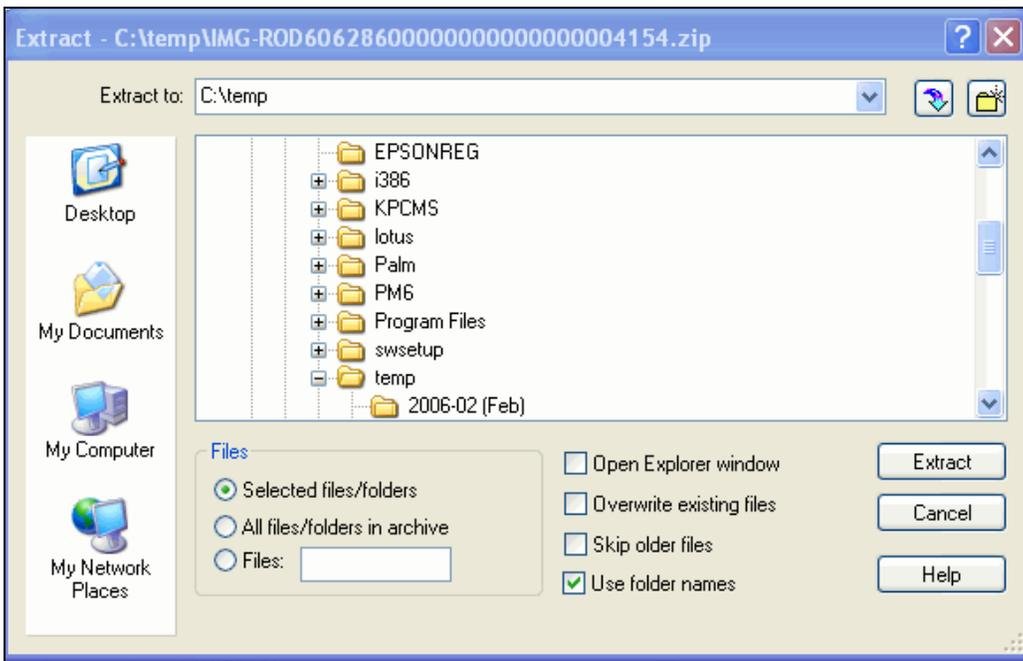

Figure 5.32.7
- Click each file name displayed within the window to select, then click the **'Extract'** icon at the top of the window. An 'Extract to' window will open (Figure 5.32.7).